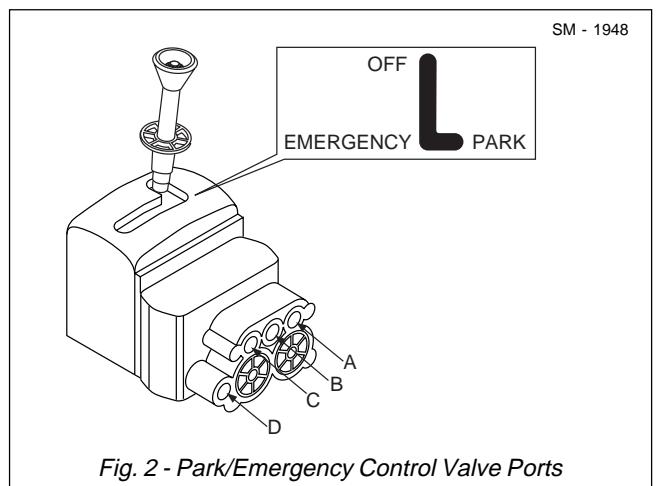

Fig. 2 - Park/Emergency Control Valve Ports
**Note:** Refer to Fig. 2 for port identification.